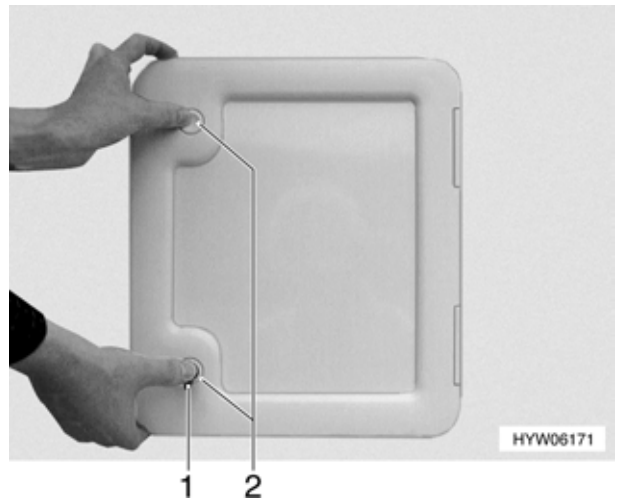

Fig. 152 Opening the Thetford flap
The flap for the Thetford cassette (Fig. 152) is located on the outside of the motorhome:
- Open the rotary lock (Fig. 152,1) with the key.
- Press both push-button locks (Fig. 152,2) at the same time and open the Thetford cassette flap.